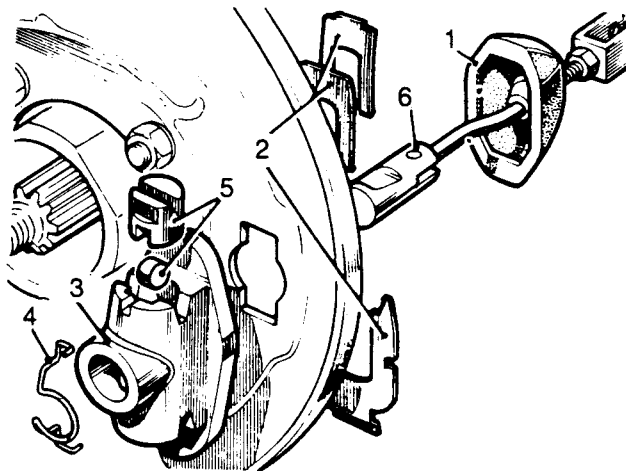

Fig K2.7
- (9) Refer to Fig K2.7. Withdraw the dust excluder (1).
- (10) Remove the expander unit fixing plates (2).
- (11) Withdraw the expander unit (3).
- (12) Remove the spring clip from the expander unit (4).
- (13) Withdraw the plungers and rollers (5).
- (14) Withdraw the operating rod (6).